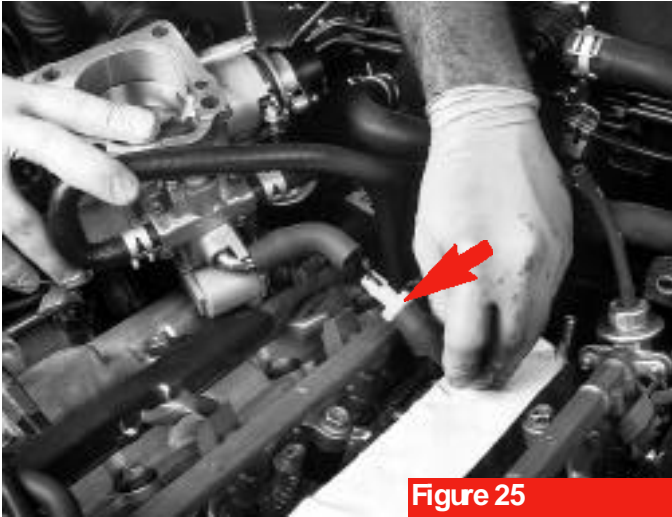

Figure 25
1. (Skip this step for 2001 and newer 4Runner) Cut the hose leading to the IAC valve connector at the location shown, and insert the kit's one-way valve into the straight part of the hose. The black end of the valve (see arrow on figure 25 and diagrams at the end of this manual) is closest to the throttle body.